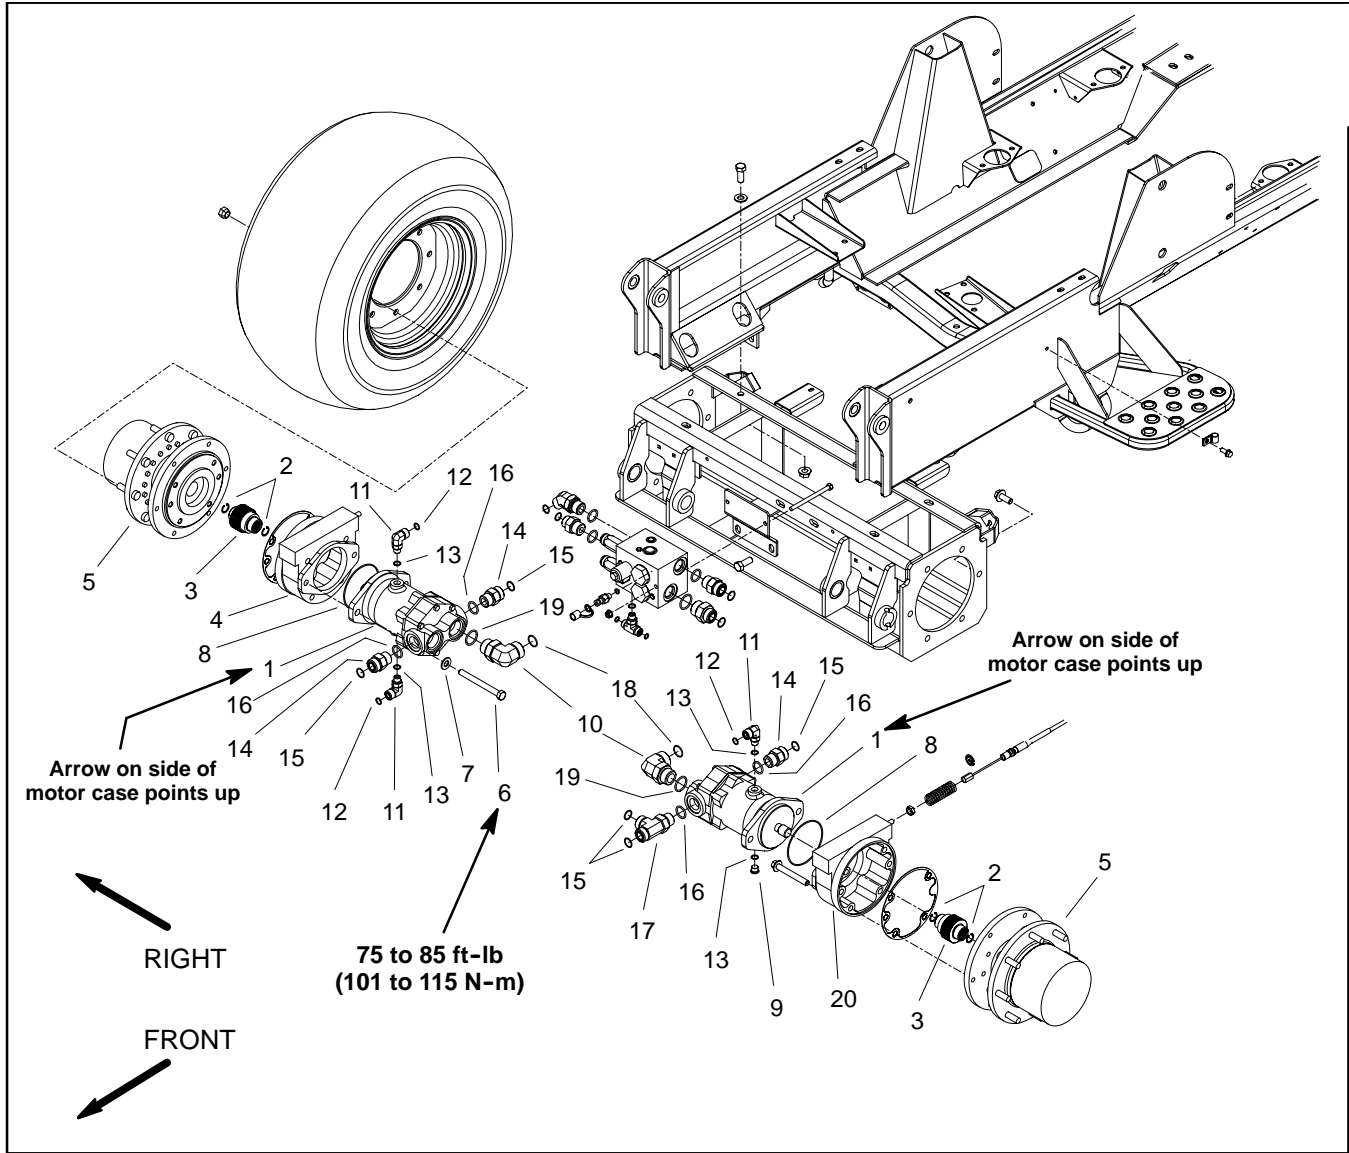

Figure 57
Removal (Fig. 57)
4. Remove wheel motor using Figure 57 as a guide.
Installation (Fig. 57)